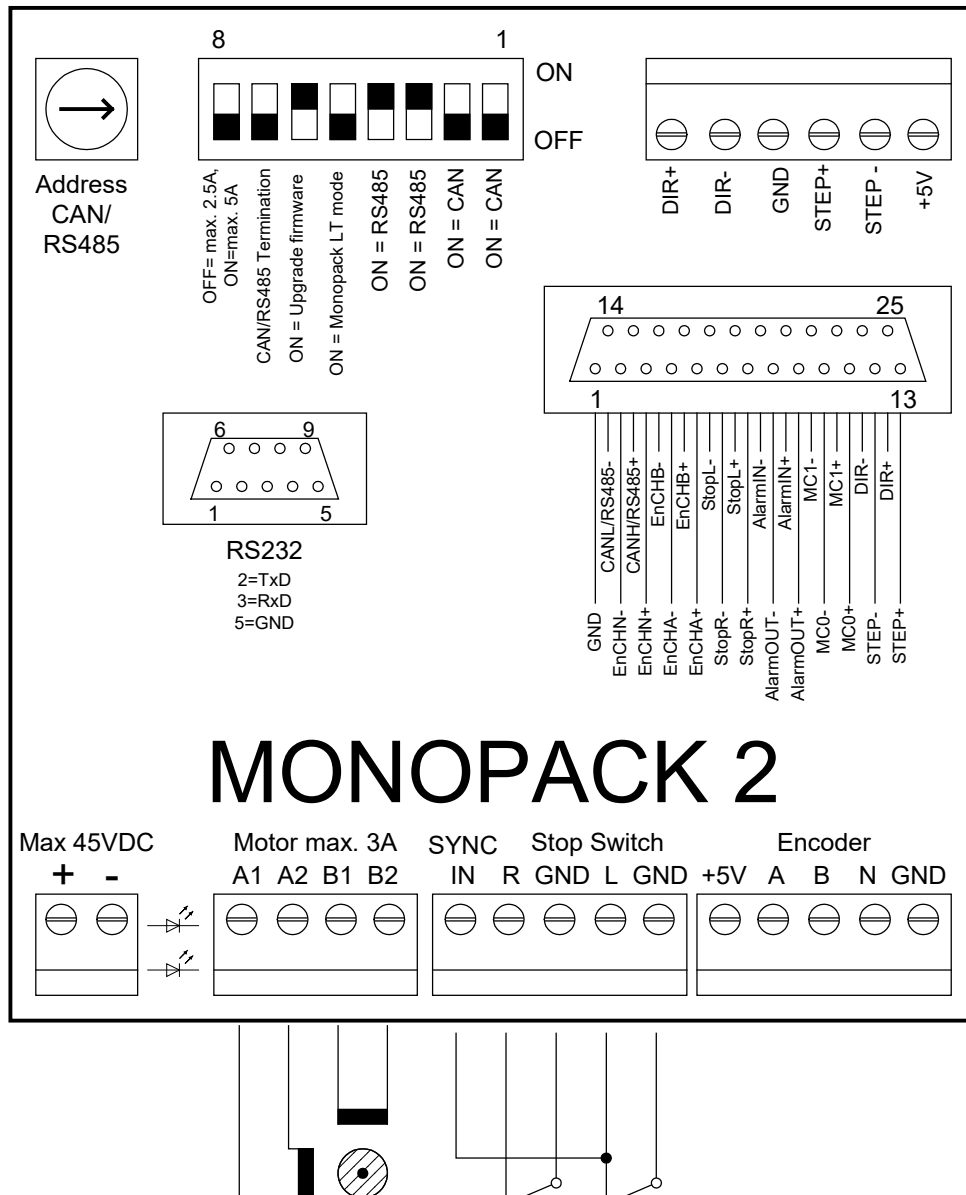
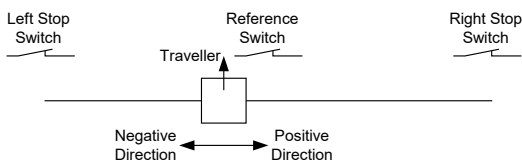

Figure 2.1: Connectors and pin assignments
Figure 2.2: A linear drive
The connectors of the Monopack 2 and their pin assignments are shown in Figure 2.1.
- Combining the reference switch with one stop switch: Connect one switch to the reference switch input and to the desired stop switch input, as shown in Figure 2.1. If only one stop switch is to be used connect the other stop switch input to ground.
In a linear drive (Figure 2.2), the traveler moves between two end points. It is not necessarily driven by a linear stepper motor. In most cases, stop switches are used at the end points, and also a reference switch is used for finding the reference point. The reference switch can also be combined with one of the end switches (as shown in Figure 2.1).